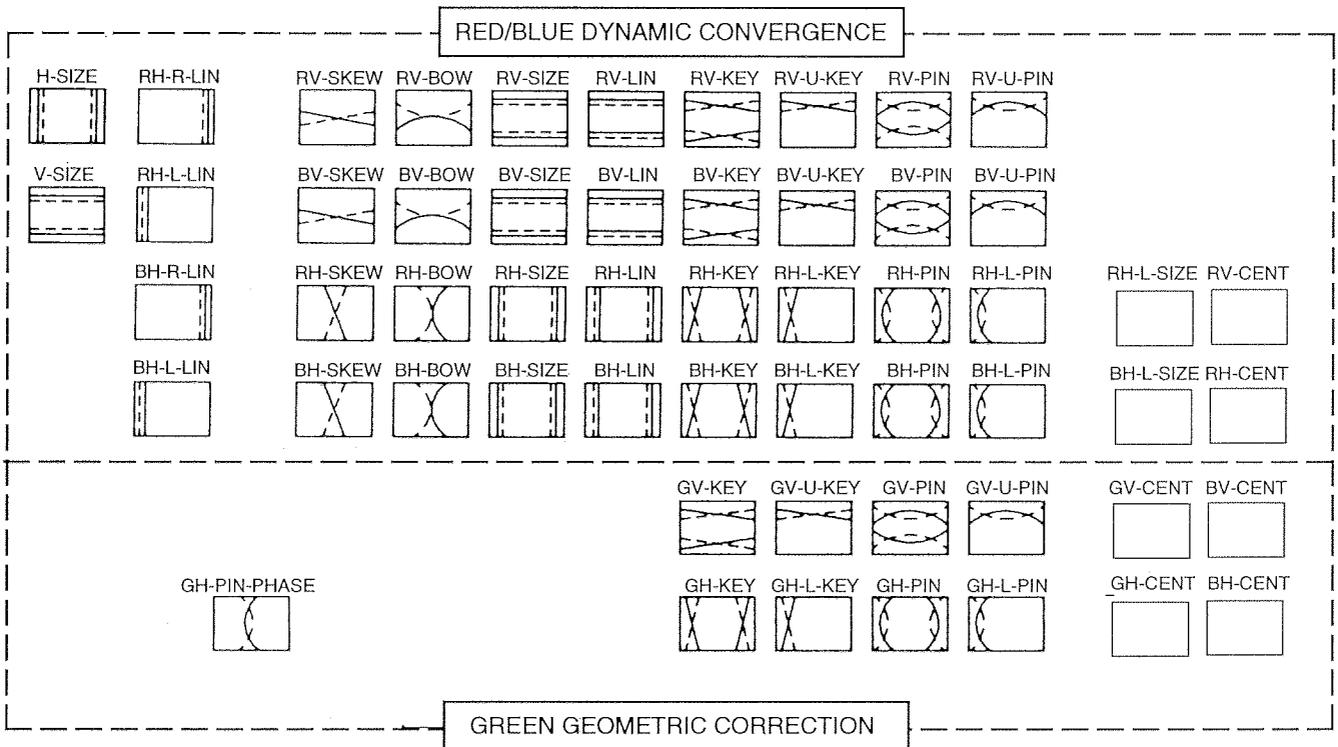

Fig. 3-4-3
- (1) When adjusting the R, turn off the B using any one of the following procedures as required.
- (2) When adjusting the B, turn off the R using any one of the following procedures as required.
- (3) The position of VRs and the movement of the bright lines are shown in Fig. 3-4-3 and Fig. 3-4-4.